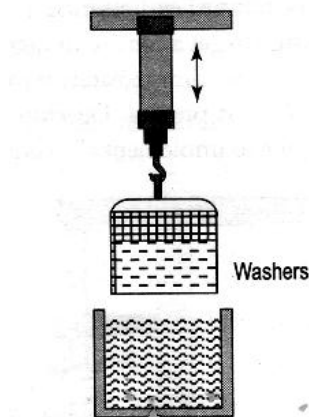

Figure 2
Figure 2 shows the arrangement for cleaning washers for injection pumps in a cleaning bath. A double acting cylinder is used to move the container filled with washers up and down in the bath several times. The operator provides a start signal manually. The washing operation is turned off automatically. The washing operation is turned off automatically after a preset time. Develop a pneumatic control circuit to implement this control task.
3. The schematic diagram of Assembly fixture for greasing of roller bearings is shown in Figure 3(a). After assembling individual roller bearing parts, roller bearings are to be pressed by a pneumatic cylinder A(1.0). Cylinder B(2.0) is required to operate a grease press twice for injecting grease into the roller bearing. The required sequence diagram is shown in Figure 2(b). Develop a pneumatic control circuit using Cascade method for implementing this control task.